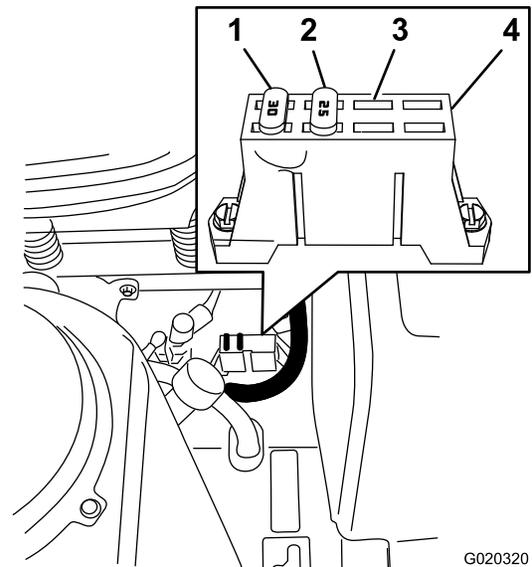

Figure 49
2. Align a new fuse with the slot in the fuse block (Figure 49).
3. Push the fuse into the fuse block until the fuse is seated (Figure 49).
Note: The fuses are located on right hand console next to the seat (Figure 49).